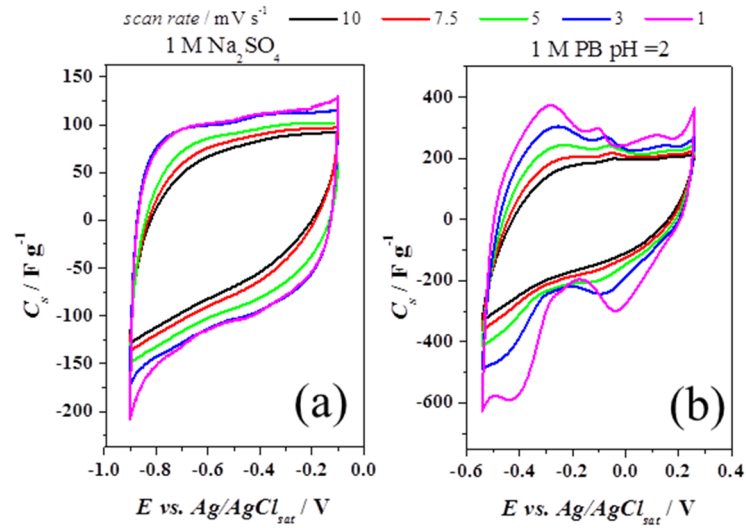

Figure S5. Differential voltammetry carried out in (a) 1 M Na₂SO₄ with the lower potential limit of -0.9 V and (b) in 1 M PB at pH = 2.
- In Figure S5: The comparison of cyclic voltammograms acquired in 1 M Na₂SO₄ and 1 M phosphate buffer (PB) at pH = 2 (both vs. Ag/AgCl KCl saturated) to study the potential window in neutral electrolyte at E < -0.7 V and to compare the stability of the peaks in neutral and acidic electrolyte;